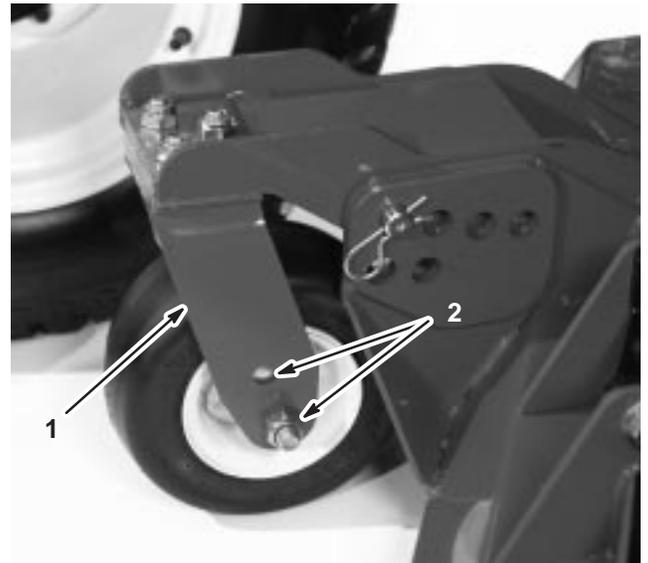
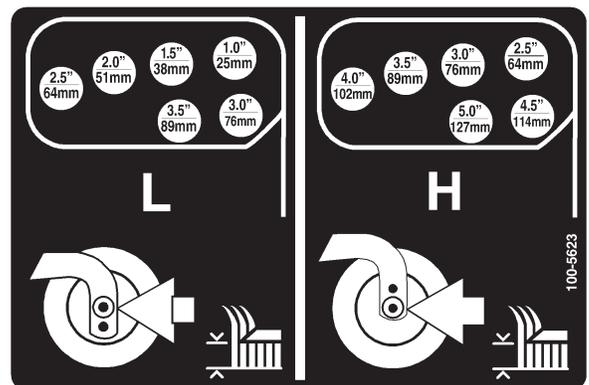

Figure 16
Figure 17
- Remove the hairpin cotter and clevis pins from the castor pivot arms (Fig. 16). Align the pivot arm holes with the selected height-of-cut bracket holes in the cutting unit frames (Fig. 17), insert the clevis pins, and install the hairpin cotters.